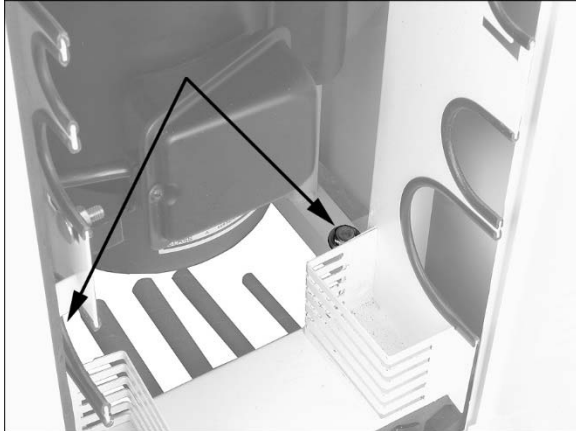

Figure 2: removal from pallet
2. Use ratchet wrench with extended socket to unscrew two bolts securing machine to pallet (Figure 2).